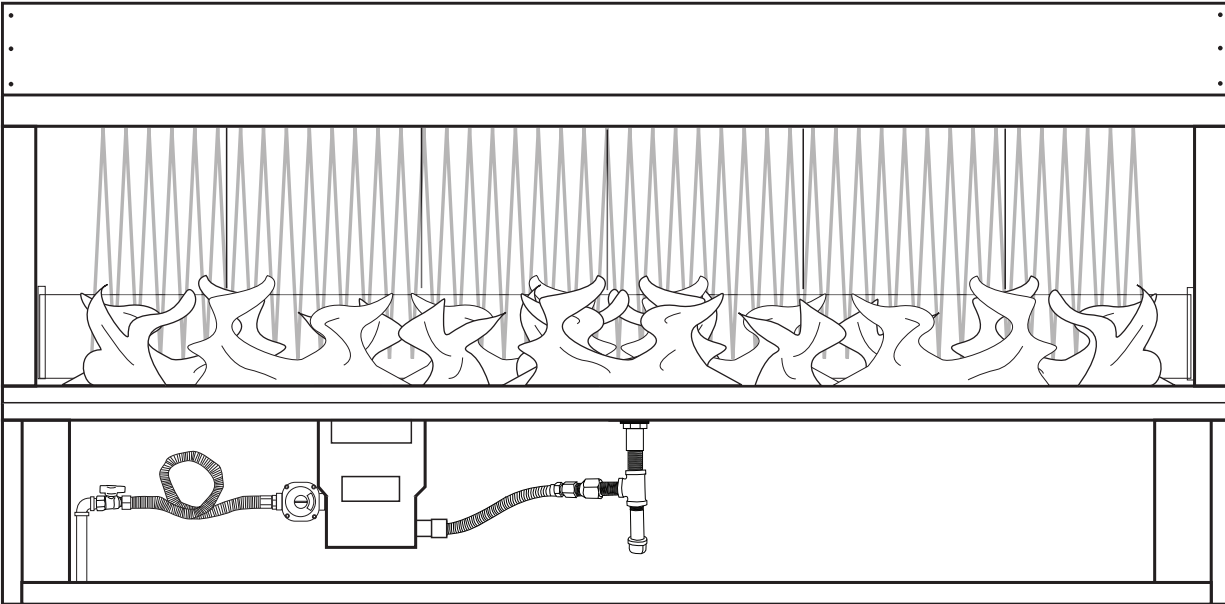

Fig. 38 Proper flame height.
Proper flame height (Fig. 38) should be at the top edge of glass windshield (peaking above at times) while on HI setting. **Note:** Glass windshield is 7-inches tall. The LO setting will be at least half of the height of HI or maybe lower. There can be a variance in flame height between Natural Gas and Liquid Propane (LP) Gas models.